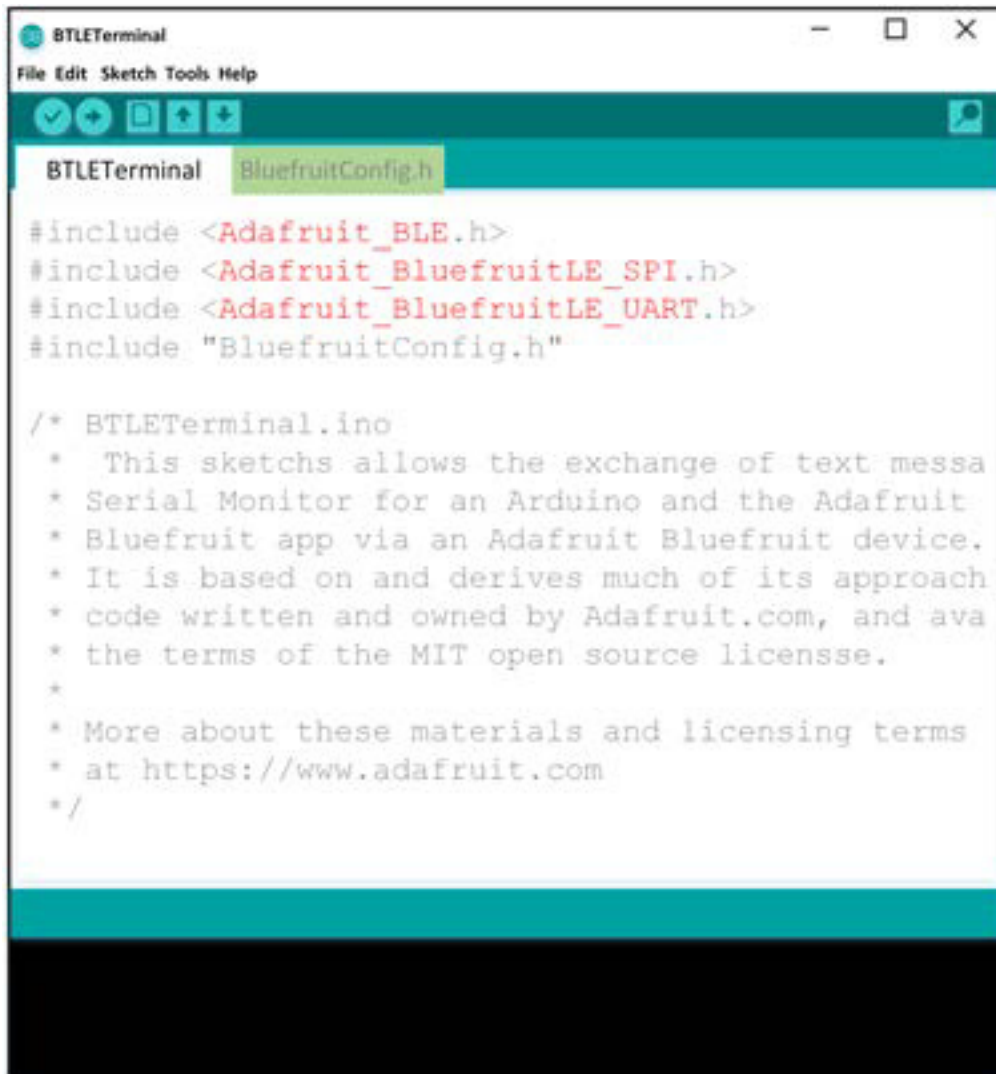

Figure HT10-6. BTLETerminal sketch opened in Arduino™
14. Using File -> Sketchbook open BTLETerminal. The Arduino™ IDE should look something like Figure HT10-6.